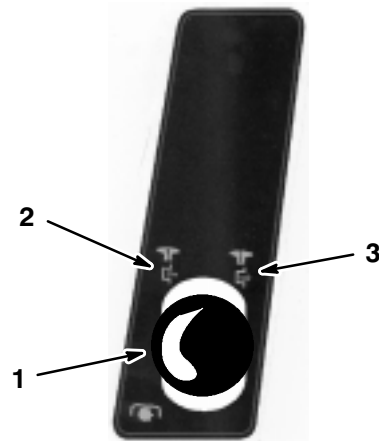

Figure 9
4. Ensure the PTO is disengaged (Fig. 9).